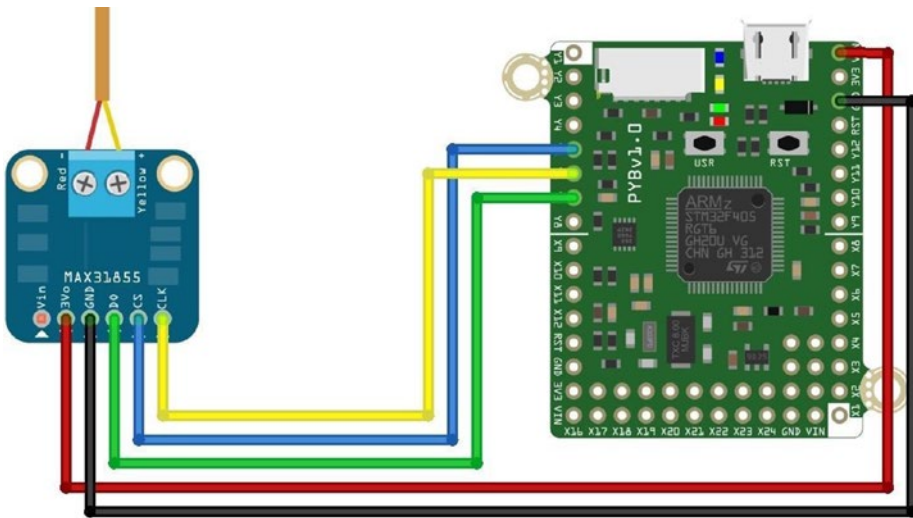

Figure 6-5. Wiring the Adafruit Thermocouple Module (Pyboard)
Now, let’s see how to wire the breakout board to our Pyboard. We will use only five wires since we are only reading data from the sensor on the breakout board. This requires a connection to power (ground (GND), the master input (MOSI), clock (CLK), and slave select (SS). Figure 6-5 shows the connections.
The correct pins to use on the Pyboard are shown in Table 6-2. You can find these pins on the Pyboard pinout found at <https://docs.micropython.org/en/latest/pyboard/pyboard/quickref.html>. Refer to Figure 6-5 for confirmation.